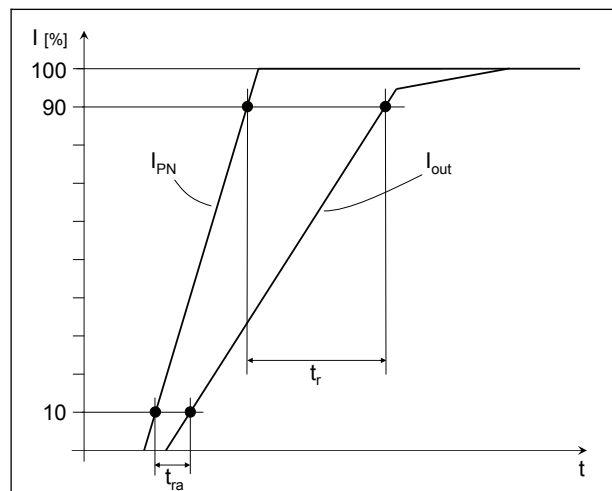

Fig.1: Definition of reaction (t_{ra}) and response time (t_r).
- $I_P = I_{PN}$ with di/dt of $6 \text{ A}/\mu\text{s}$. See Fig.1.